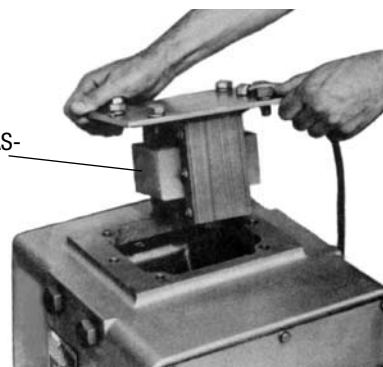

FIGURE 7
2. Pry and lift the electrical assembly from the body casting, using a sling or some other safe method of lifting. (See Figure 7).